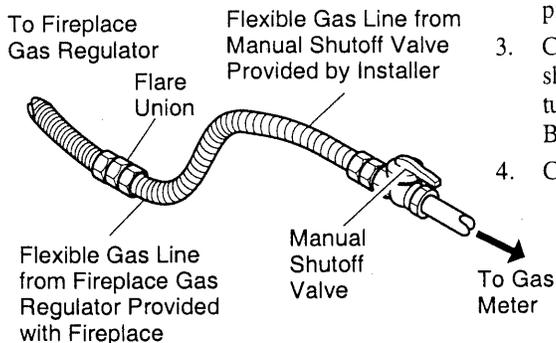

Figure 32 - Attaching Flexible Gas Lines Together
NOTICE: Most building codes do not permit concealed gas connections. A flexible gas line is provided to allow accessibility from the fireplace (see Figure 32). The flexible gas supply line connection to the manual shutoff valve should be accessible.
- Attach a 45° flare union gas connector to flexible gas line from gas supply (see Figure 32). Connect flare union to flexible gas line attached to gas regulator of fireplace (see Figure 32).